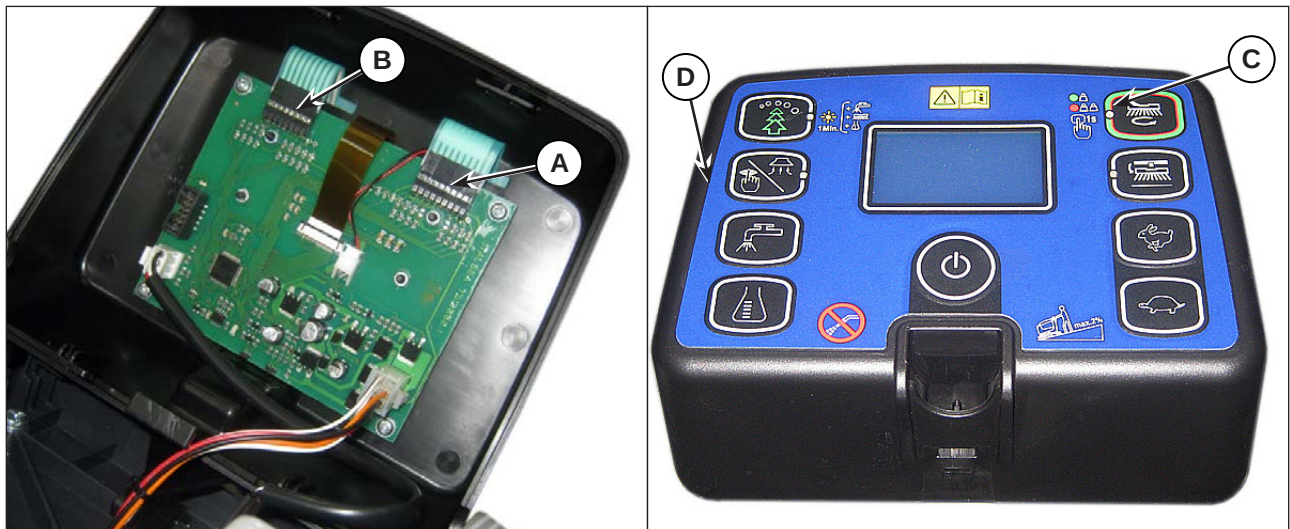

Figure 17:
9. Disconnect the following connections sequentially (Figure 17):
- (A) Flat connection J2.
- (B) Flat connection J3.
10. Carefully raise the User interface controller (C), detaching it from the cover (D).